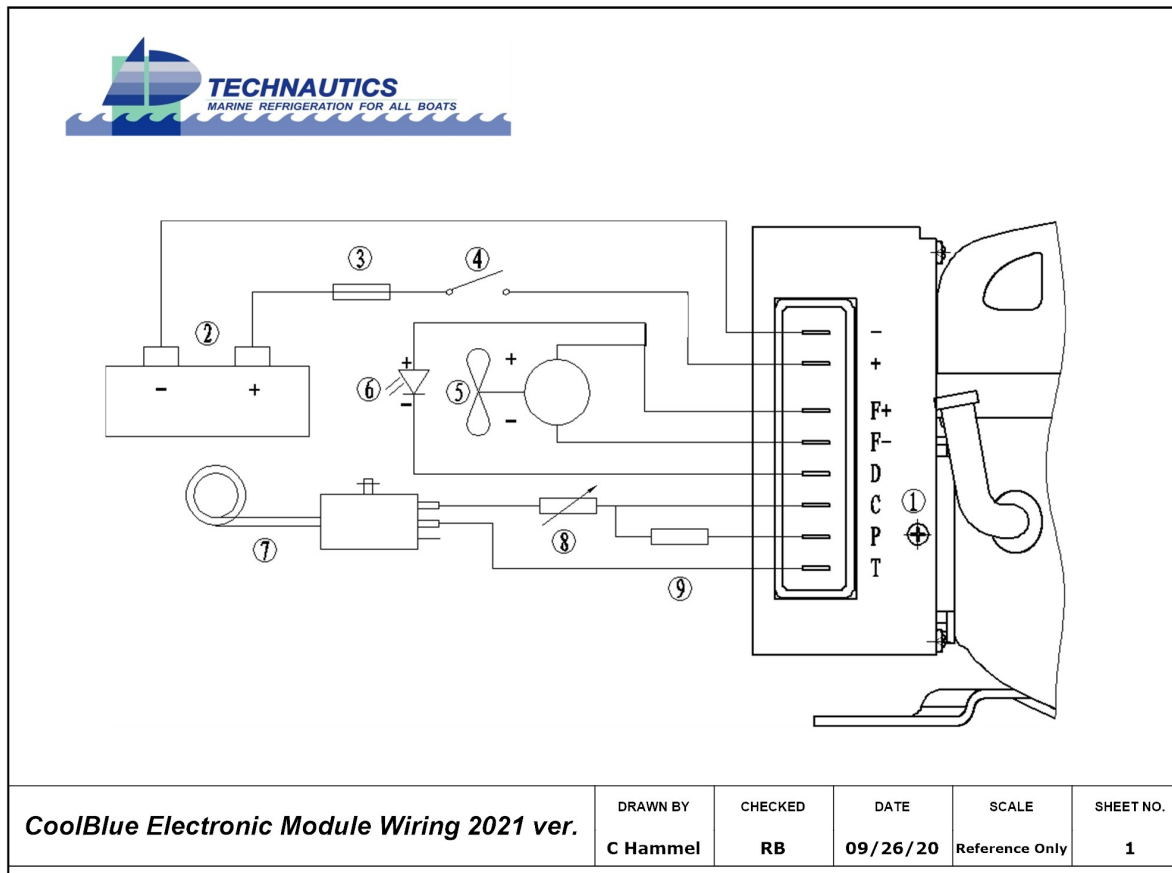

Figure 22: Compressor Electronic Control Module Wiring
The electronic driver features a terminal board where all connections are made. The terminal lay out is described in Figure 22:
As shown in Figure 22. (5), the positive side of the fan is connected to the (F +) end of the controller, and the negative terminal of the controller is connected to the (F-) terminal of the controller. A terminal of the controller (F +) and (F-) can be connected with a 12V DC fan. When the input voltage of the controller exceeds 12V, the output value between the terminals (F +) and (F-) is always kept at 12V.